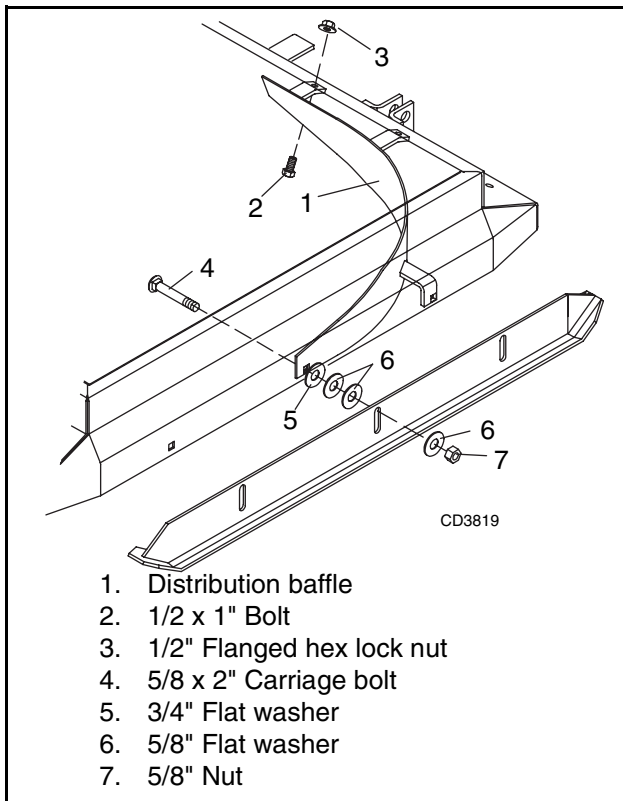

Figure 21. Distribution Baffle Installation
Remove the two rear carriage bolts from the left side skid. Place baffle (1) under cutter frame and attach as shown in Figure 21.